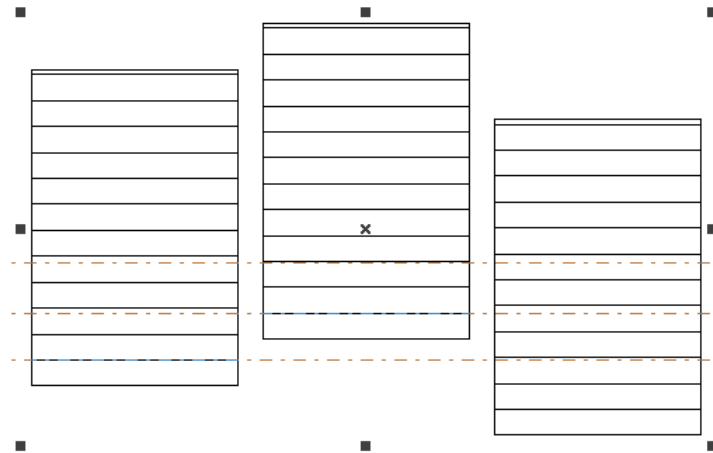

Fig 3-4(a) do not click 'All Calc', the hatch line are not in the same line
3. Marking result as follow fig 3-4: